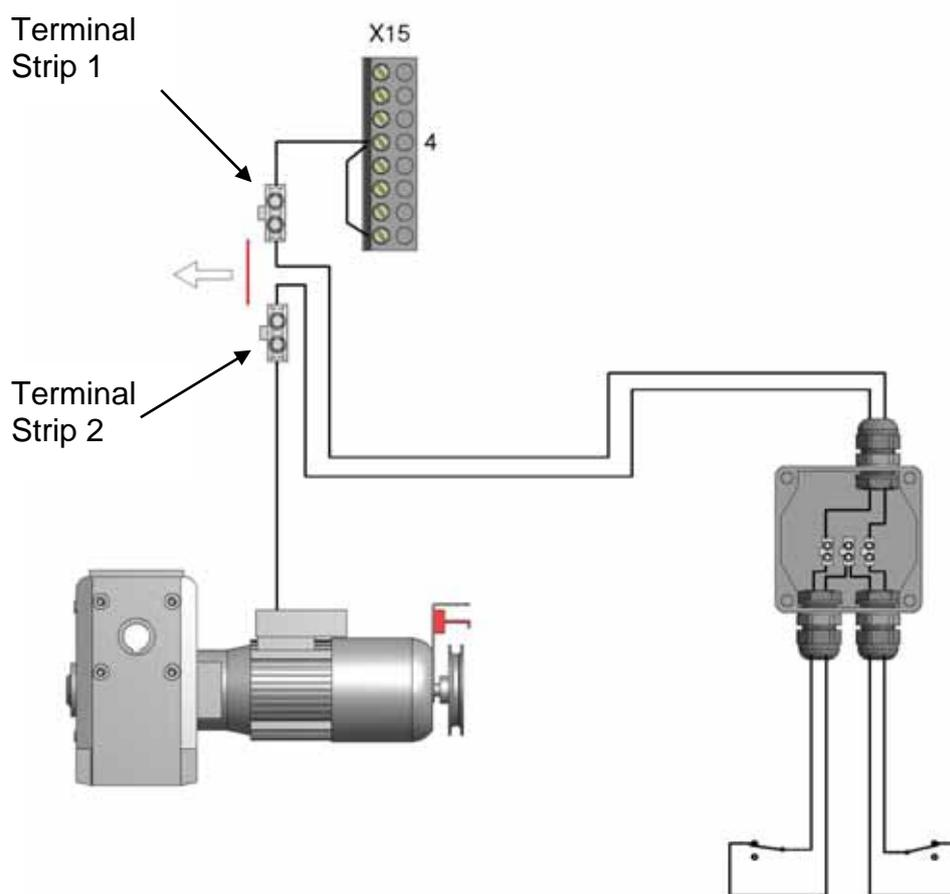

Figure 13
4.7 **Wiring in the Counterweight Micro Switches:** Following Figure 13 connect the Counterweight Containment Box (E1) Micro-Switches in series with the Motor Closed Limits.